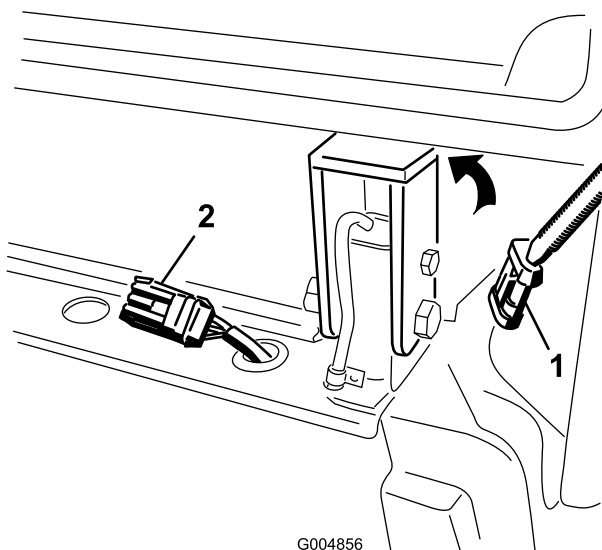

Figure 66
3. Remove the cap and plug the cab wire harness connector into the harness on the rear frame mount (Figure 66).